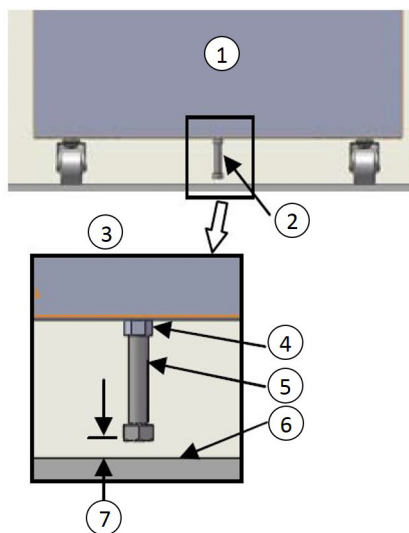

Figure 11. Bolt Location
- b. Unscrew 1/2" bolt until there is 1/2" clearance between floor and head of bolt as shown in the *Figure 11*.